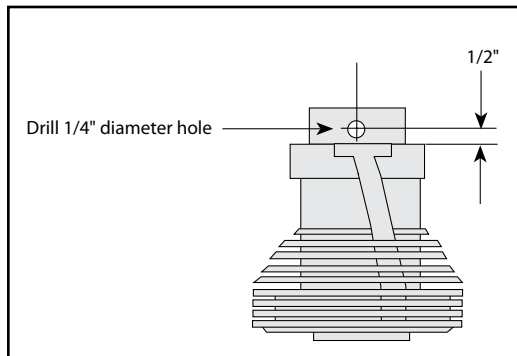

Figure 4
- A. Directly in line with return hole in bottom of cylinder flange, drill 1/4" diameter hole centered 1/2" away from base gasket surface through cylinder sleeve. **See Figure 4, below left.**